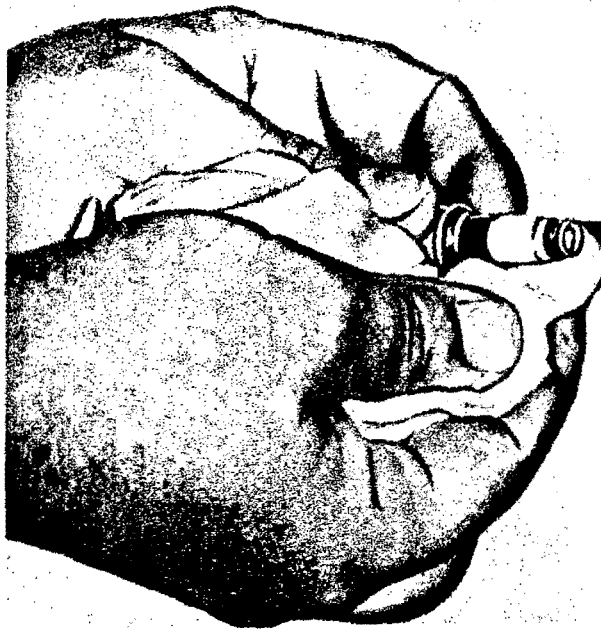

Figure 4-24. Compound to Connector with Cloth
h. Visually inspect the connector insulator and spring. Do not touch with the fingers: If desired, apply a light film of insulating compound (Specification MIL-I-8660) to the connector by means of a clean cloth [Figure 4-24].